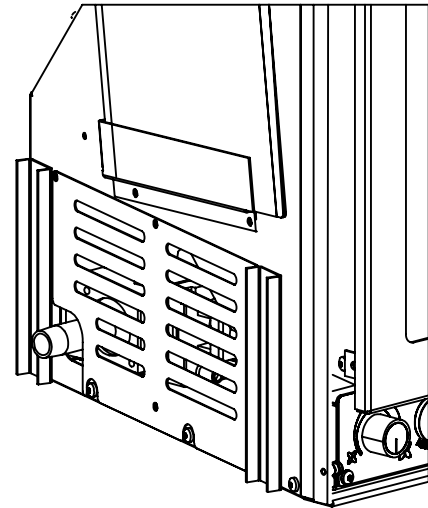

Figure 32: 3/8" NPT Male Pipe Nipple with Cover Attached.
- A 3/8" NPT male pipe nipple (supplied with the unit) will have to be turned into the valve at the lower left side rear of this fireplace (see Figures 32 and 33). Consult the local authorities for local codes or use the CAN/CGA B149 (1 or 2) installation code in Canada. In the US, gas installations follow either local codes or the current edition of the National Fuel Gas Code ANSI Z223.1.